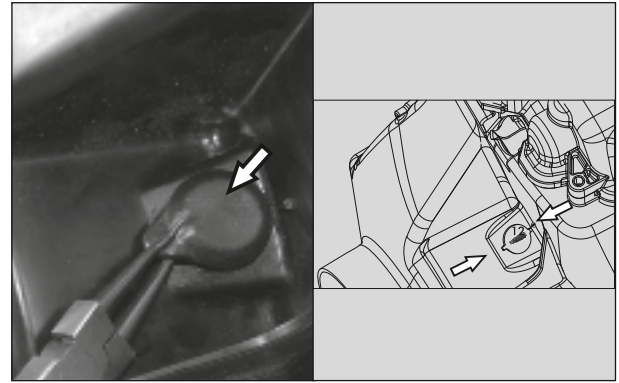

Fig. 3.35
- Remove the cap timing mark inspection on cowl LH. (Fig. 3.35)
- Rotate fan and match the timing mark on magneto rotor to the arrow mark on the cowl LH. (Fig. 3.35)